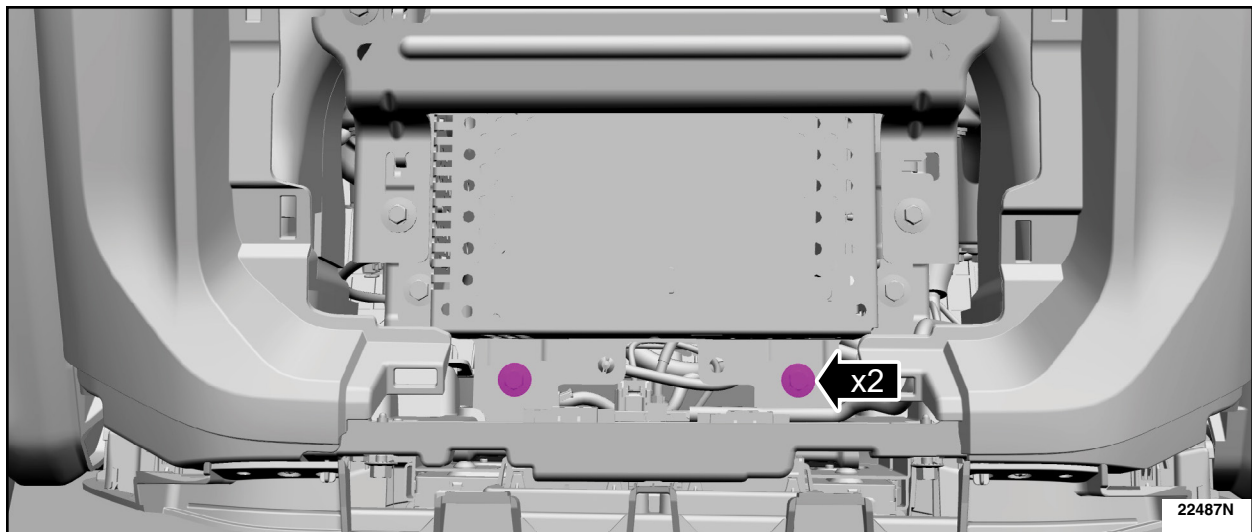

FIGURE 13
14. Remove the bolts. See Figure 13.